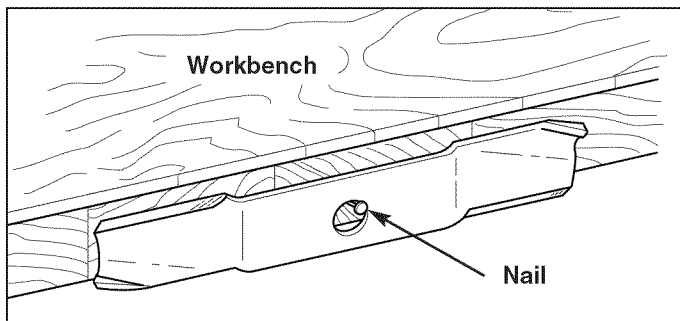

Figure 18. Balancing The Blade
5. Balance the blade as shown in Figure 18. Center the blade's hole on a nail lubricated with a drop of oil. A balanced blade will remain level.